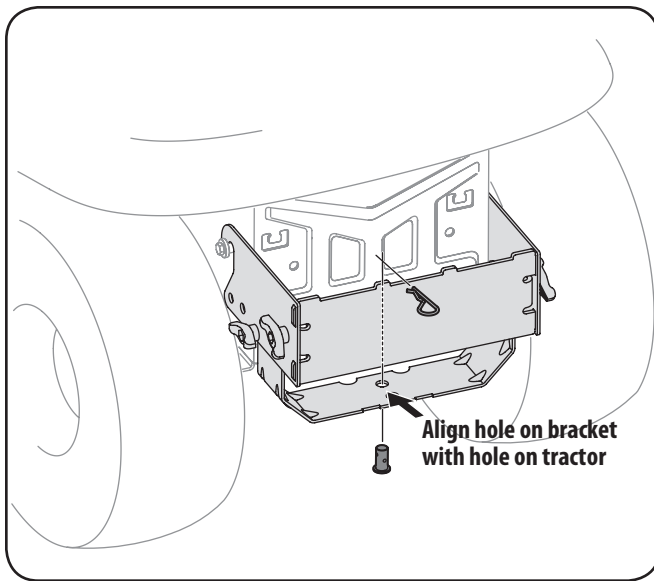

Figure 4-6
2. Install the clevis pin from hardware pack 689-00328A into the tractor's hitch and secure with a hairpin clip. See Figure 4-6.